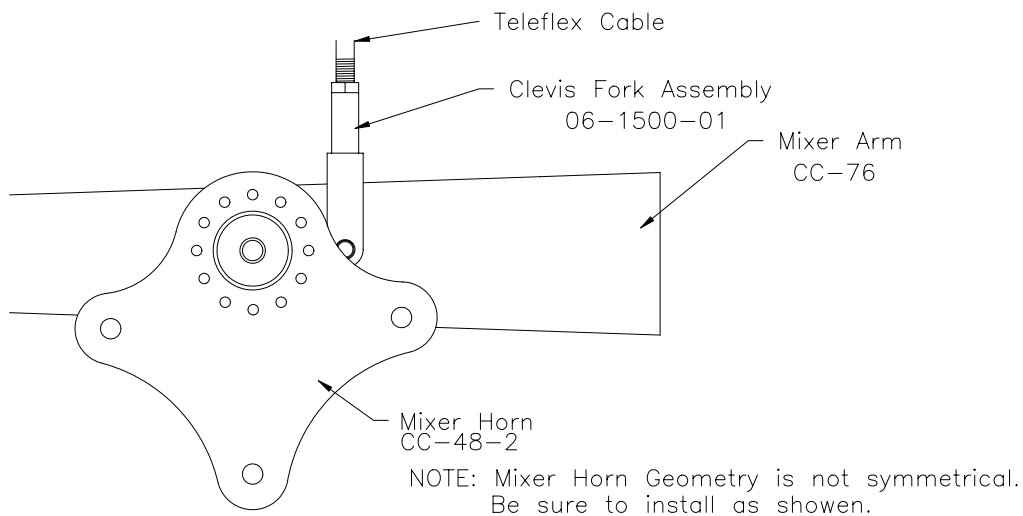

Figure 15.10.1
- 1) Attach the teleflex cable to the mixer arm with the clevis fork assembly (06-1500-01). Figure 15.10.1.